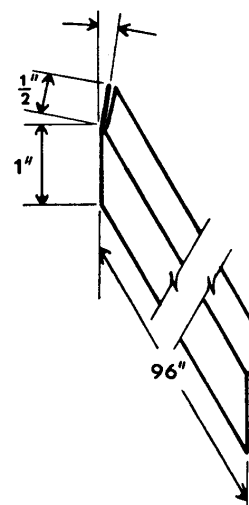

FIGURE 6 — OUTER COVER ATTACHMENT STRIP
26. The 96" long sheet metal anchor strips are attached to the edge of the second 4' x 8' Kalwall sheet with ½" sheet metal screws at 8 or 9 inch intervals to hold the Kalwall and anchor strips together (Figure 6). To seal the joint, a small bead of caulking is run along the edge before assembling.